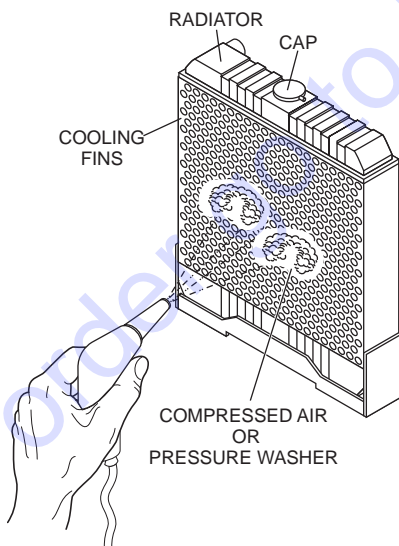

Figure 48. Radiator Cleaning
5. Blow off dirt and dust from the radiator and cooling fins with 28 psi (193 kPa) or less of compressed air (Figure 48). Be careful to not damage the fins with the compressed air.